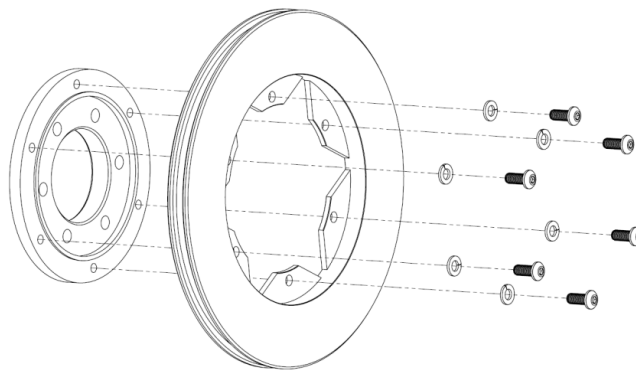

Figure 6. Use thread locker when assembling the 6 bolts and washers to each rotor sub-assembly.
- 8) Assemble the rotors to the rotor adapter (i.e. rotor "hat") using the supplied 5/16 x 3/4" button head screws and the 5/16 split lock washers. Each rotor needs 6 screws and washers as shown in Figure 6. Apply a few drops of thread locker on to the threads of the screw during assembly. **Tighten the bolts to 180 in lbs.**